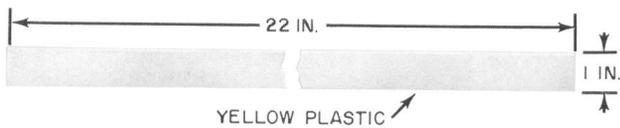

Fig. 8—G Warning Decal
(h) **G warning decal** (Fig. 8): Used in rural areas where higher visibility is required. It is yellow plastic, 1 inch wide by 22 inches long. It is placed on the closure just above the F warning decal.
8.02 The F warning decal is factory installed. Where higher visibility is required a G warning decal (Fig. 8) is placed just above the F warning decal.